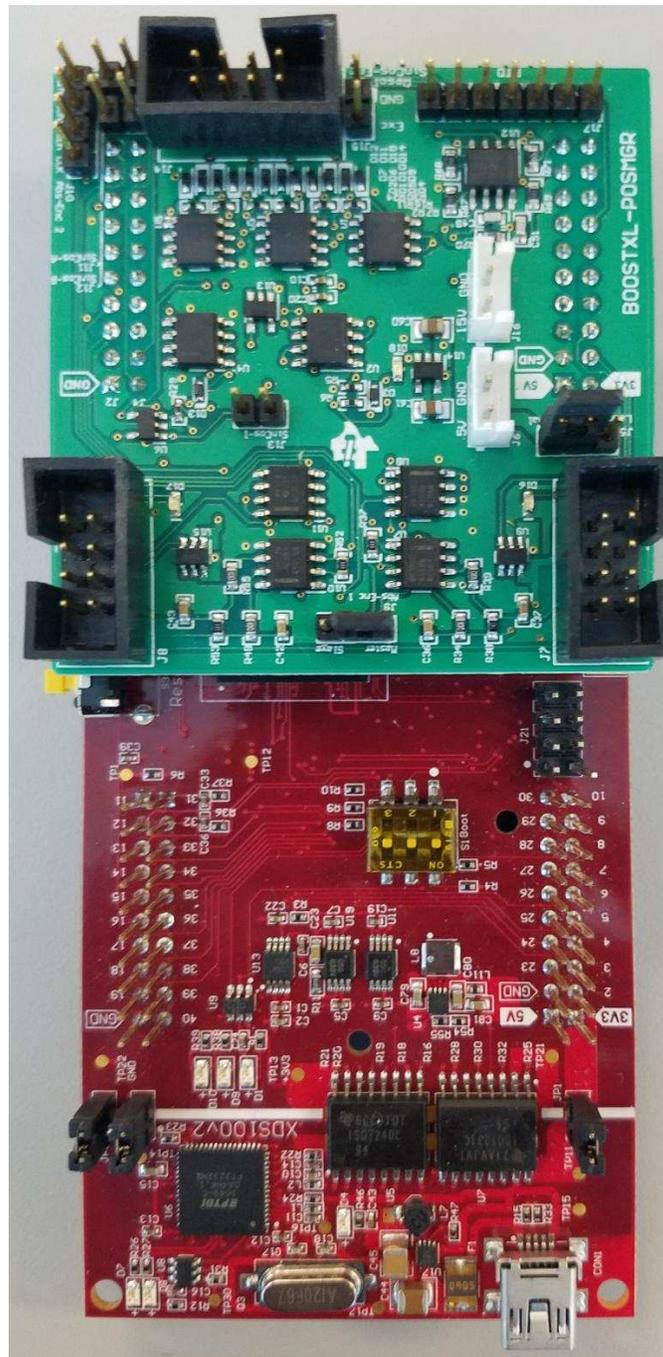

図 10. TIDM-1010 Board Connected to Site Two of LaunchPad™
2. Connect the TIDM-1010 device to the LaunchPad using the BoosterPack connector (J1, J3 and J4, J2). Ensure the TIDM-1010 device is connected to site two of the LaunchPad, as shown in 図 10.